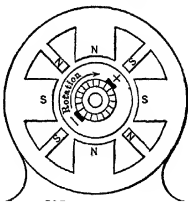

Fig. 205. Four-pole generator with commutating poles.
Note, in Fig. 205, that if we start with the north pole at the top and go around the frame clockwise (the direction in which the armature is rotating), we come next to a south interpole, which is of the same polarity as the next main pole we come to, etc.
**Prob. 8-9.** Draw the field coils on the main shunt poles and commutating poles in the generator, Fig. 205, showing the direction and source of current in each coil.